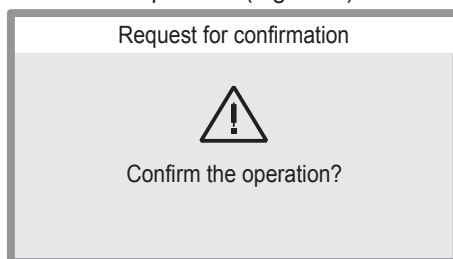

Fig. 7.20
- Press key 12 and wait 1 second.
- Press key 12 again.
- Press key 13 to reset the fault or key 14 to cancel the operation (Fig. 7.20).